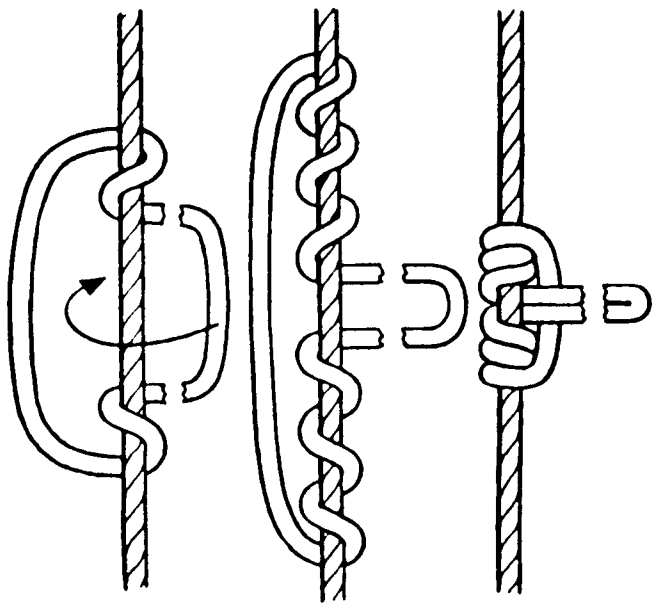

Fig. 4.8. The Prusik Knot.
**Prusik Knot.** The Prusik knot is a valuable means of saving yourself if you fall into a crevasse, or in climbing up a rock face. The knot will hold tightly when weight is applied, but it will slide easily when unweighted. The method of tying is shown in Fig. 4-8. Take a bight of line and turn it twice around the rope, then pull the loose ends of the line through the loop.